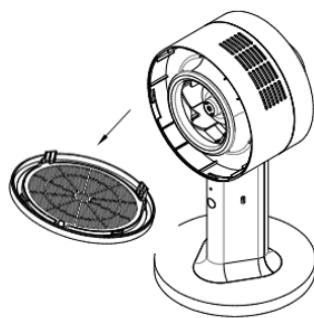

Fig. 2.
2. Remove the panel component [Fig. 2].